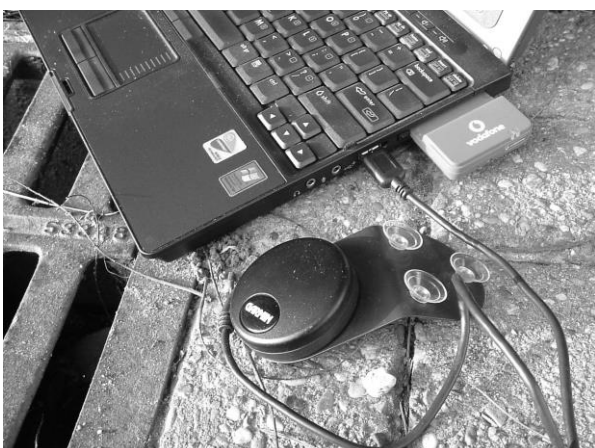

Figure 3.5.1
- The Garmin GPS 18x2 antenna connected to an available USB port as depicted in figure 3.5.1;